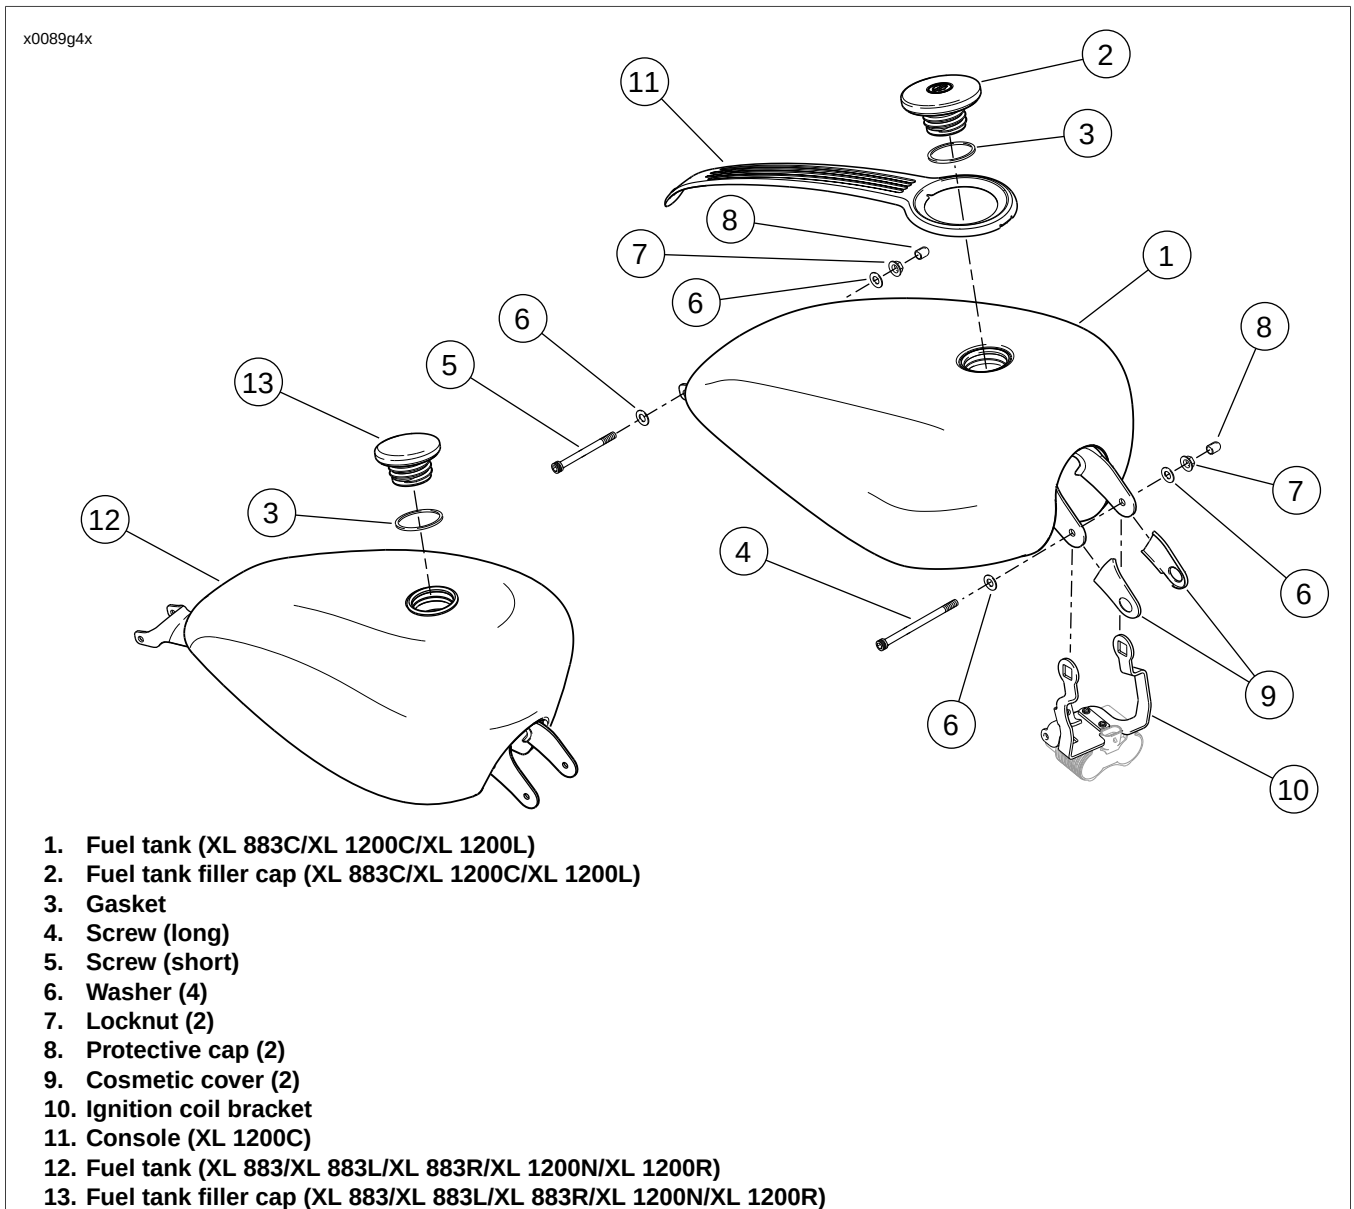

Figure 4-4. Fuel Tank and Mounting Hardware
See Figure 4-4. Turn the fuel filler cap (2 or 13) clockwise until at least three clicks are heard in order to verify that it is securely fastened to the fuel tank (1 or 12).
6. See Figure 4-4. Remove protective caps (8), lock nuts (7), screws (4, 5) and washers (6) from front and rear of fuel tank.